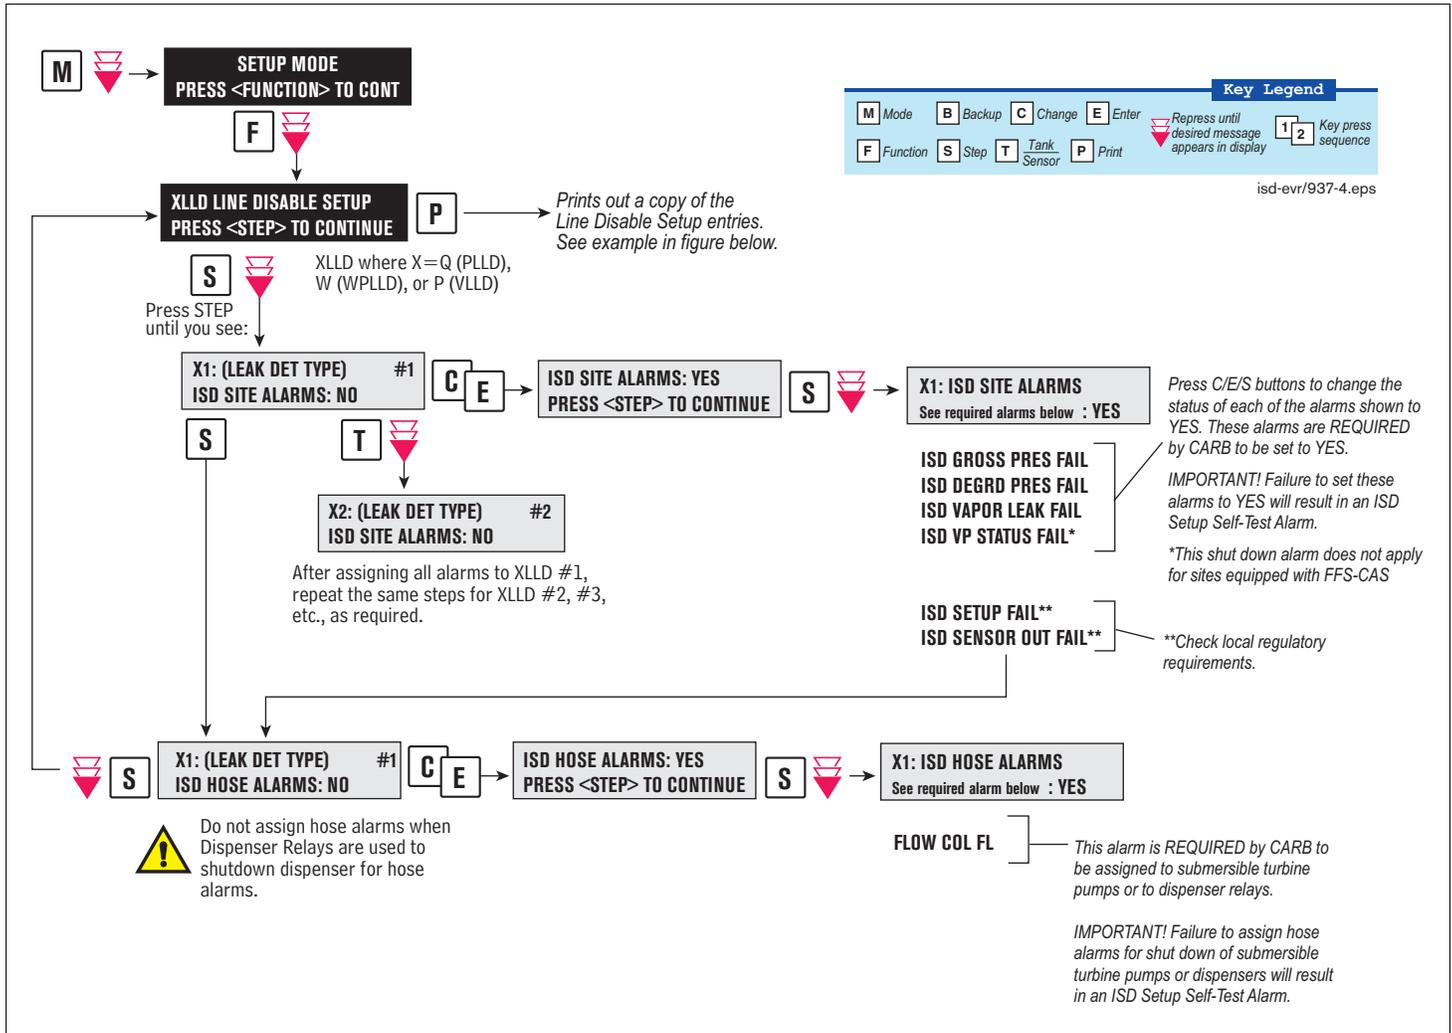

Figure 16. Assigning ISD Shut Down Alarms in Line Leak Disable Setup
- For ISD sites with line leak detection - XLLD Line Disable Setup (go to Figure 16)
Figure 16 illustrates the setup steps required to assign ISD Shut Down Alarms to a tank having a line leak detection system installed.